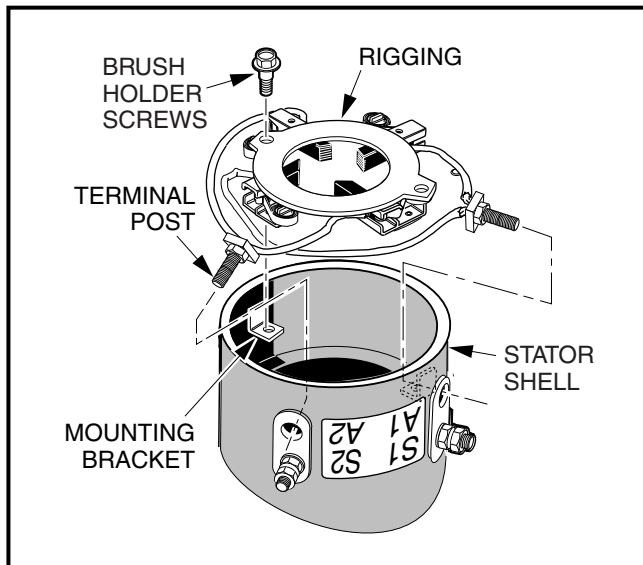

Figure 15-12 Brush Installation
- 2.1. With brush rigging facing down and held slightly above the stator shell, insert the two terminal posts through the insulators in the stator shell wall at the A1 and A2 positions. Insert the brush holder screws through the holes in the brush rigging and into the threaded holes in the mounting bracket (**Figure 15-12, Page 15-11**). Tighten the screws to 20 in-lb (2.2 N·m).